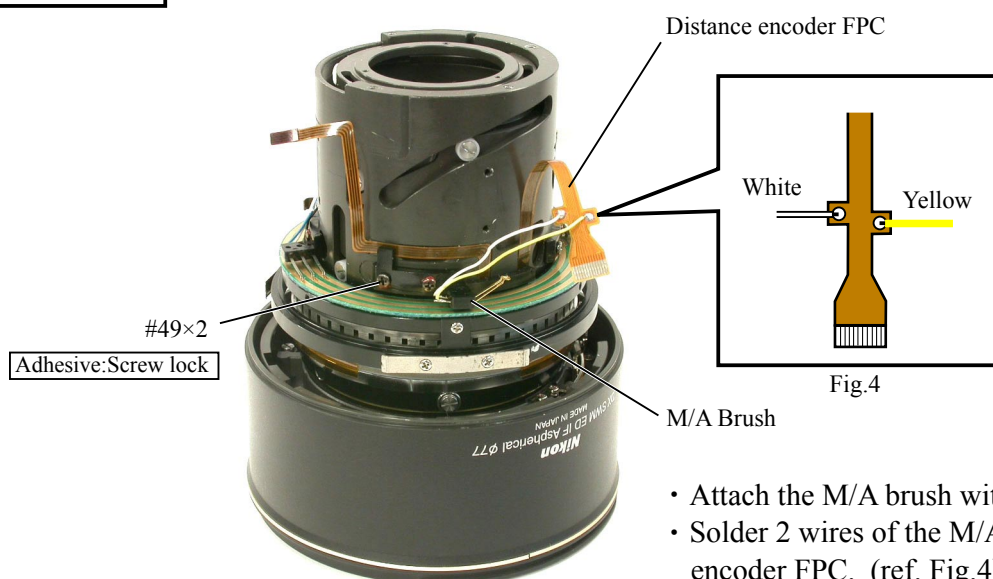

Fig.4
- Solder 2 wires of the M/A brush on the distance encoder FPC. (ref. Fig.4)
- Put the connector E in position as shown in Fig.4.